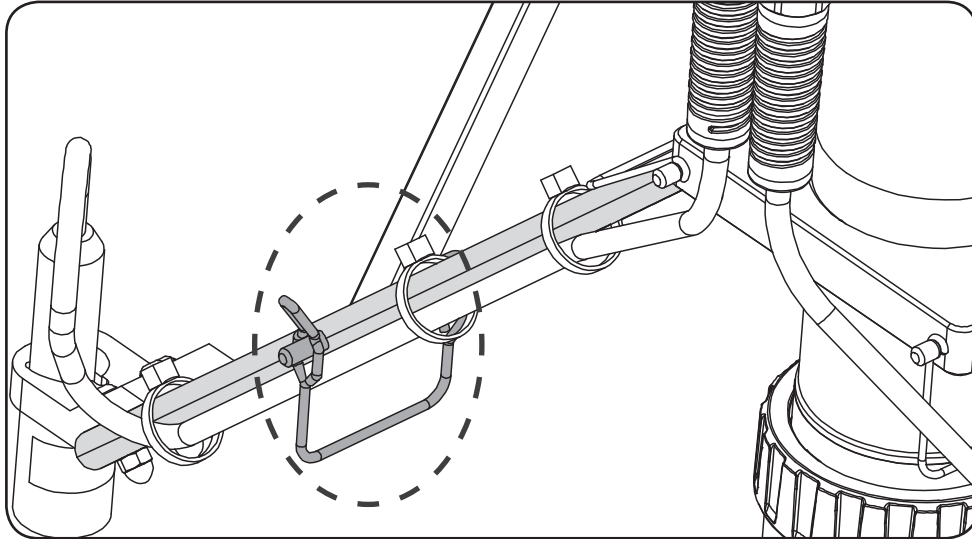

Figure 7 Lift the arms and install the pins where the two arms meet
3. Once you have the EXO PAR system secured to the EXO2 sonde body it is time to deploy the sensor arms. To do so simply lift the arms and install the pins where the two arms meet, as shown (figure 7).